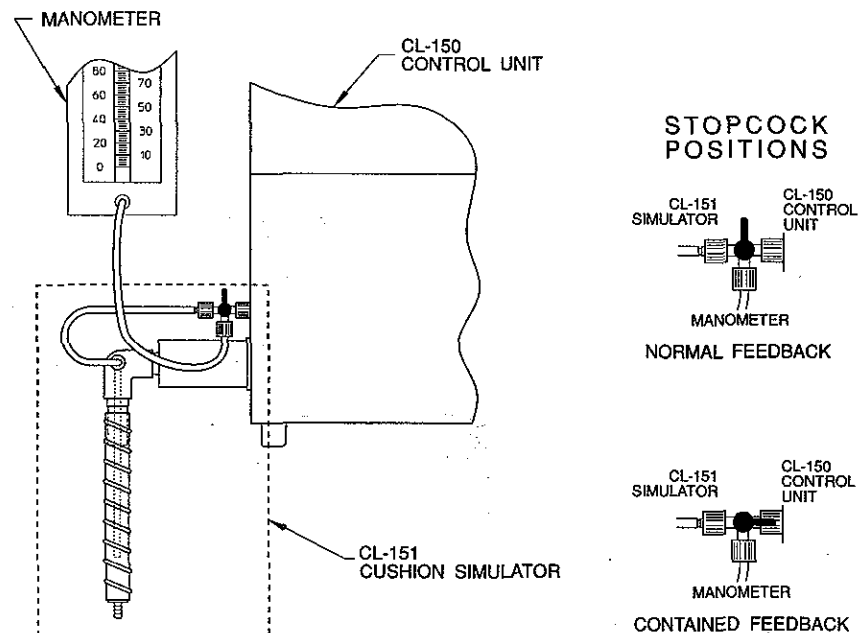

Figure 2 - Cushion Simulator (CL-151)
1. Connect the Cushion Simulator to the SPR•Plus Control Unit and a manometer (fig. 2). Place the Cushion Simulator stopcock in the Normal Feedback position.
1. Press the up arrow switch until the value in the pressure indicator peaks. The display should indicate 32 mmHg. After a moment, verify that the reading on the manometer connected to the Cushion Simulator (fig. 2) is within 3 mmHg of the display.
3. Place the stopcock on the Cushion Simulator in the *Contained Feedback* position (fig. 2).
1. Place the stopcock on the Cushion Simulator in the *Normal Feedback* position (fig. 2).
2. Place the stopcock on the Cushion Simulator in the *Contained Feedback* position (fig. 2).